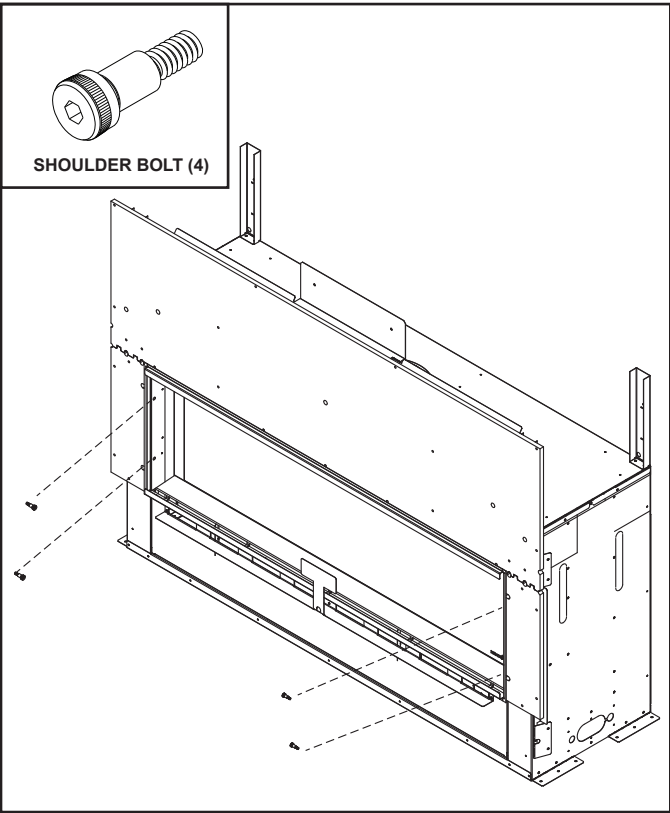

Figure 6. Install Shoulder Bolts
8. Install four shoulder bolts as shown in Figure 6 .